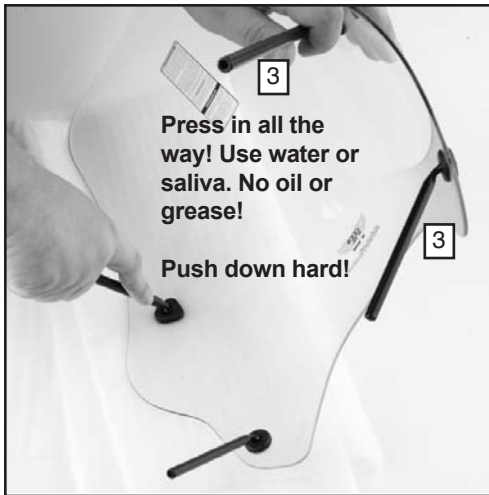

Figure 1
1. Install the Upper Rods (3) and Lower Rods (3) into Ball Sockets. Place shield face down on smooth, non-scratching, well supported surface. Wet the upright ball with saliva; **do not** use oil, grease, or silicone as lubricant. Push upright ball into socket until seated, it will “pop” into place. Do this at all four sockets. **Figure 1**